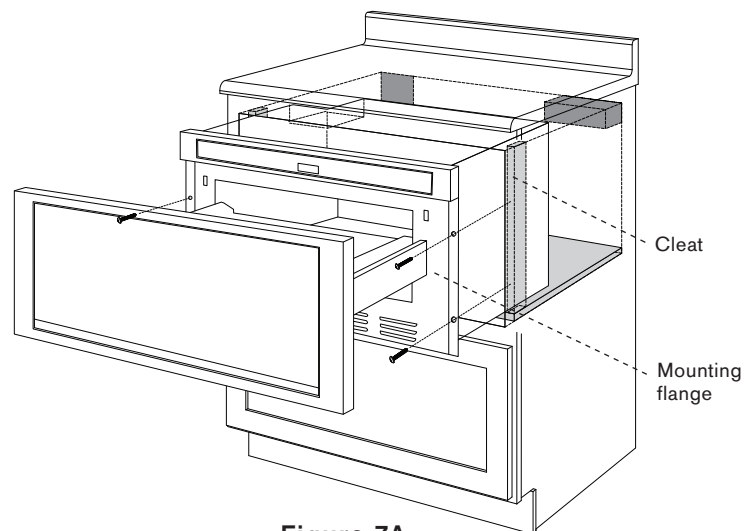

Figure 7A
- 3 Slide the drawer all the way until the mounting flange makes contact with the face of the cabinet for standard installation or side cleats for flush installation. See Figure 7A.
- 4 Open the drawer. Using the 4 holes on the drawer as a template, pre drill the cabinet using a 1/16" bit. See Figure 7A.